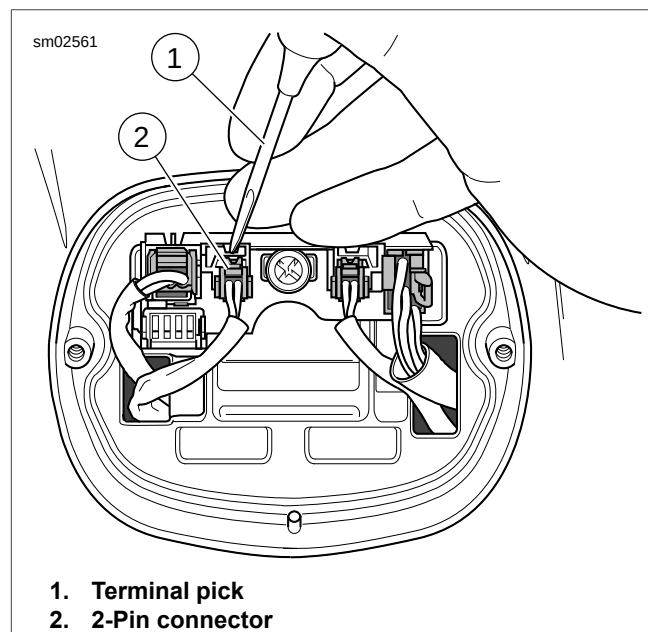

Figure 7-36. Removing 2-Pin Connectors
3. See Figure 7-36. Using a TERMINAL PICK TOOL (Part No. HD-41475-100), press locking tabs and remove two 2-Pin turn signal connectors and 6-Pin Power In connector from circuit board.